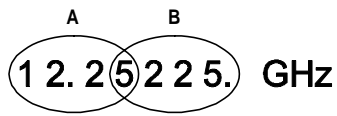

Figure7. Downlink frequency low and high-resolution display
Downlink frequency: (see Figure 7) For example; if the current Downlink frequency is 12.25225 GHz, changing to Alt-1 Mode (ALT LED flashes) and then pressing 7 displays the four most significant digits on the front panel (i.e., 12.25). At low resolution (A), pressing the up ↑ or down ↓ arrow button advances the frequency up or down in 10 MHz steps (i.e., 12.26, 12.27, and so on). Pressing and holding down the up ↑ or down ↓ arrow button will increase the step size further.